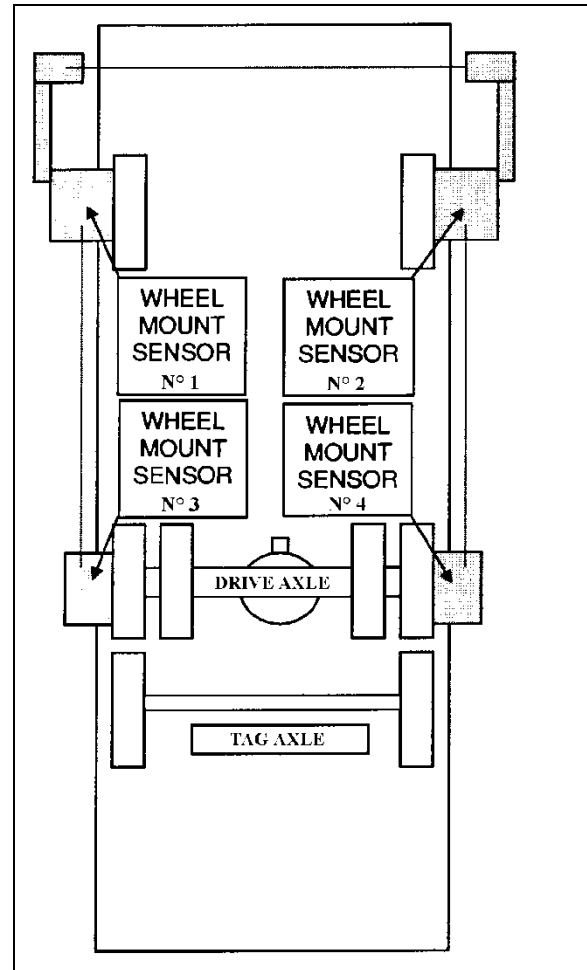

FIGURE 8: FRONT & DRIVE AXLE ALIGNMENT 11025
3. Install wheel mount sensors on front end and drive axle wheels (Figure 8).
4. With the system installed as in Figure 8, adjust drive axle according to specifications' chart below.